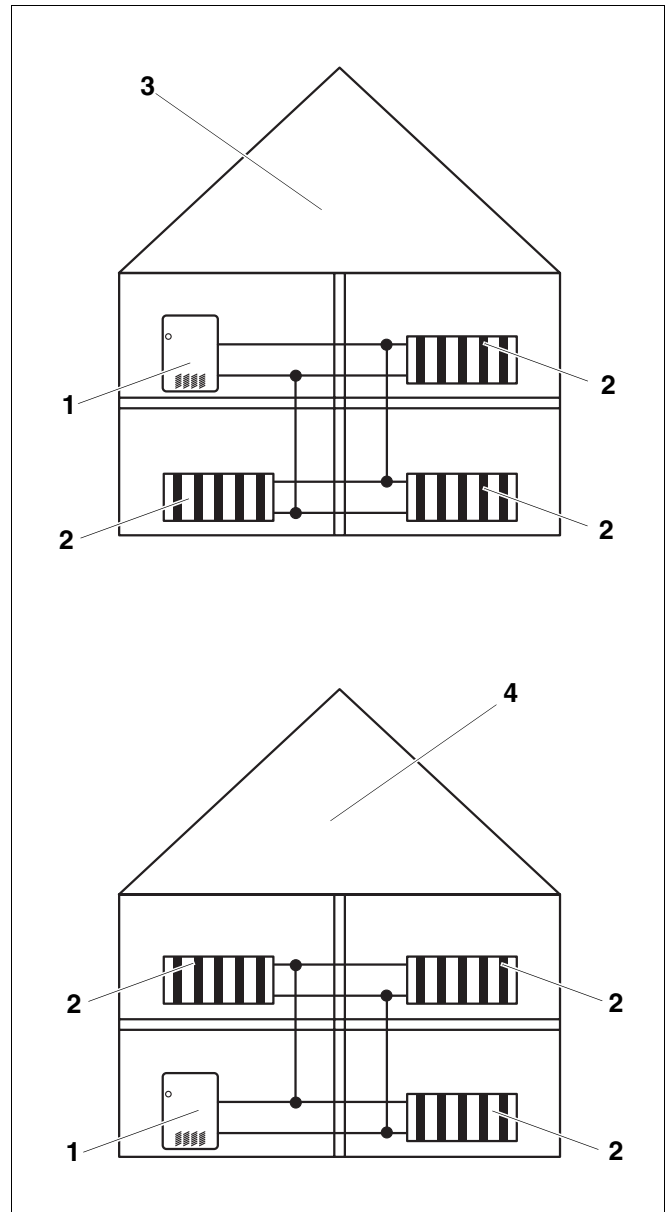

Fig. 8 Low-water cut-off installation
- Note that a boiler installed above the level of the heating system must be equipped with a low-water cut-off. The low-water cut-off must be installed during installation of the boiler and placed above the water level in the boiler without any means of shutting the water off between the boiler and low water cut-off (→ Fig. 8).